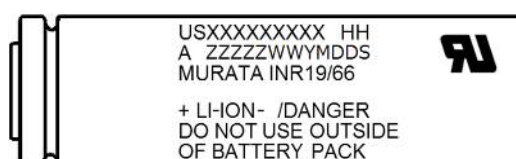

Fig.1
5.2 Model Name(Fig.1:USXXXXXXXXXX)
5.3 Factory(Fig.1 : A for factory code)
【Fig.1】 SG or G : Murata Electronics Singapore (Pte.) Ltd. Tuas Plant.
5.4 Specification(Fig.1 : HH for Cell Type)
5.5 Lot Number(Fig.1: YMDDS for Manufacturing Date of Cells)